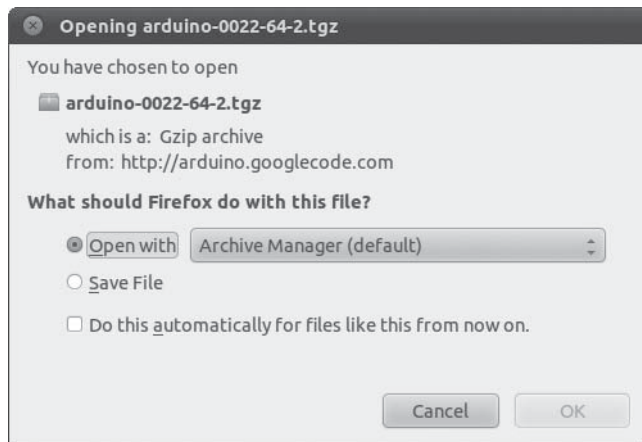

Figure 1-24: Downloading the file
2. Click the Linux **32-bit** or **64-bit** link, depending on your system. When the dialog in Figure 1-24 appears, select **Open with Archive Manager** and click **OK**.